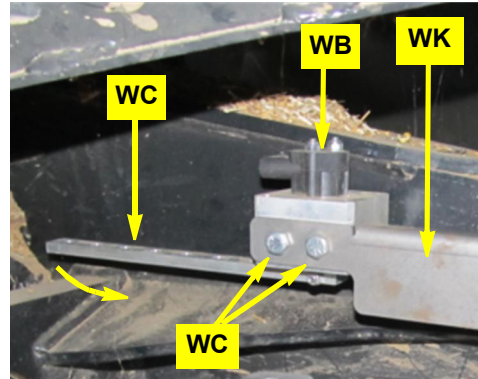

Figure 2b: WAS assembly installed
b. Using hardware **WJ**, install the WAS assembly from step 1 on the axle side of bracket **WK**. Have the wire connector **WB** on top, pointing toward the center of the machine. Connector arm **WC**'s working arc will be toward the front of the machine (Figure 2b).